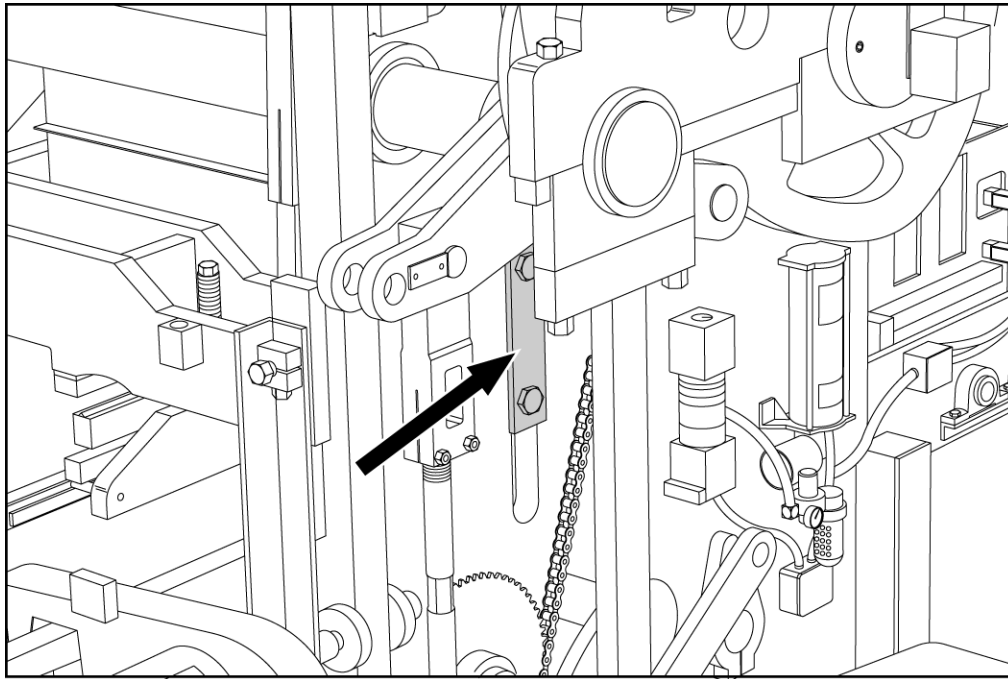

Figure 4.25 TIGHTEN "T" CLAMPS ON BOTH SIDES
- f. Tighten "T" clamps on each side of machine that secure machine side plate to mold throat plate. See figure 4.25 below.